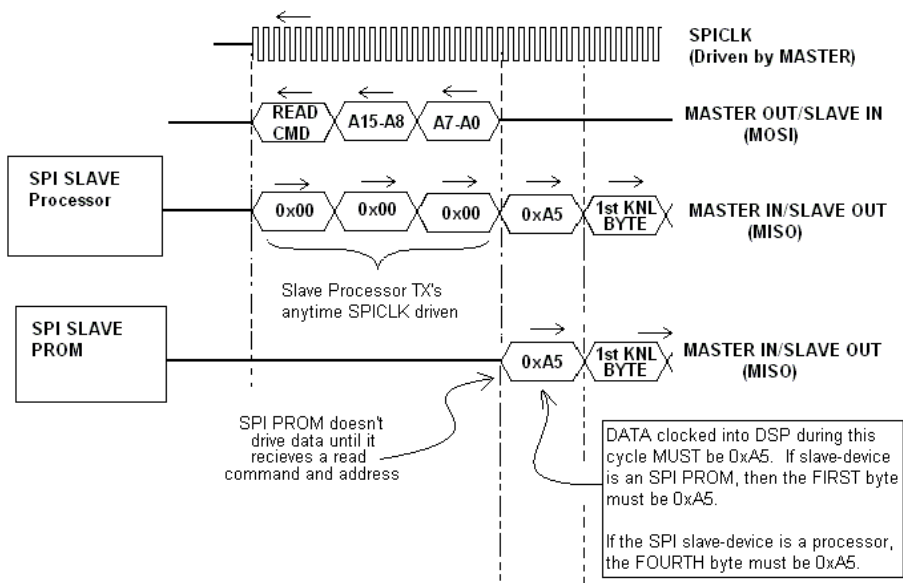

Figure 6-1. SPI Master Mode Booting Using Various Serial Devices
Figure 6-1 shows the initial 32-bit word sent out from the processor. As shown in the figure, the processor initiates the SPI master boot process by writing an 8-bit opcode (LSB first) to the slave device to specify a read operation. This read opcode is fixed to `0xC0` (`0x03` in MSB first format). Following that, a 24-bit address (all zeros) is always driven by the proces-
- 1 Initial word for SPI master boot type is always 32 bits. See Figure 6-1 on page 6-13 for explanation.
- 2 Initial word for SPI PROM boot type is always 8 bits. See Figure 6-1 on page 6-13 for explanation
Typically, host processors in SPI slave mode transmit data on every `SPICLK` cycle. This means that the first four bytes that are sent by the host processor are part of the first 32-bit word that is thrown away by the processor (see Figure 6-1). Therefore, it is necessary for the loader to pad an extra four bytes to the beginning of the boot stream when programming the host; for example, the first byte of the kernel is the fifth byte of the boot stream. VisualDSP++ automatically handles this in the loader file generation process.